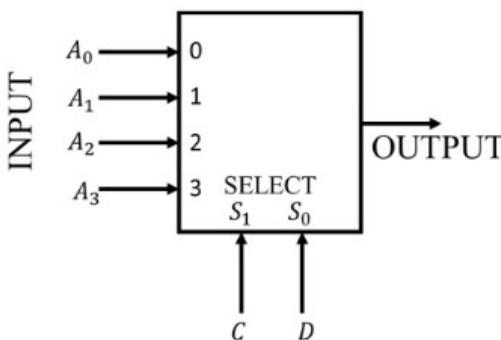

Fig. 4.25: MUX
39. Consider the 2-bit multiplexer(MUX) shown in Fig. 4.25. For OUTPUT to be the XOR of C and D, the values for A_0, A_1, A_2 and A_3 are _____ (GATE EC 2022)